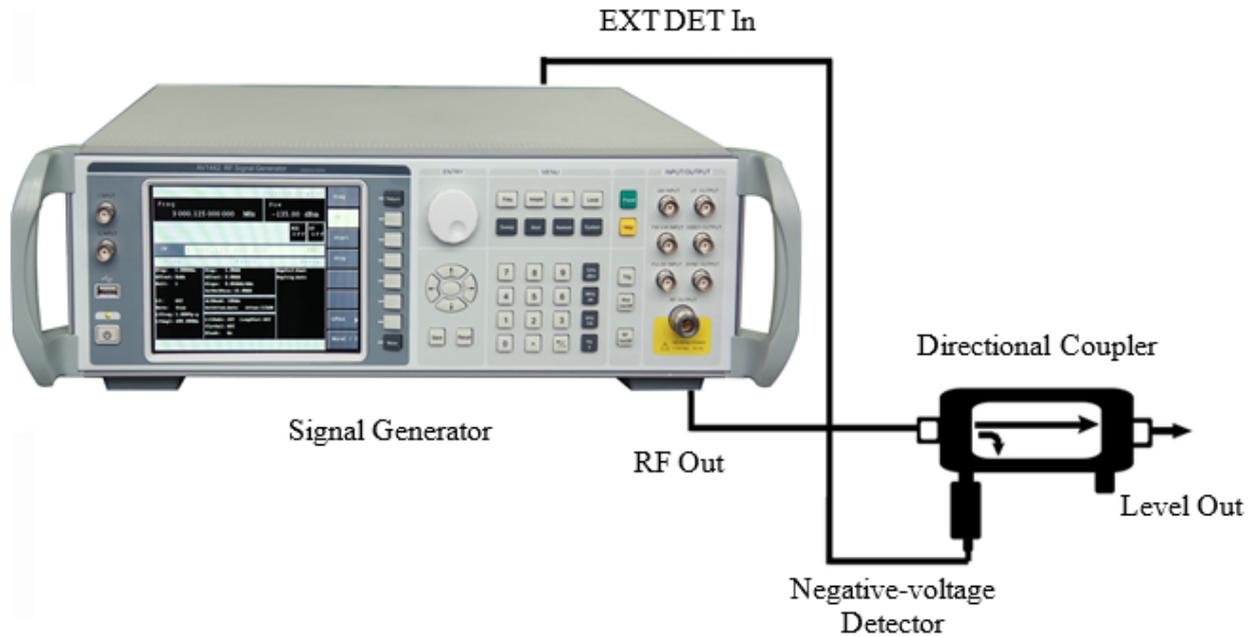

Figure 4-3 ALC Circuit External Leveling
Figure 4-3 illustrates a typical setup for external leveling. When externally leveled, the power level is fed back from the external negative voltage output detector rather than the internal detector. This feedback voltage controls the ALC system thus controls the output power.
- 1) Connect the instrument as shown in Figure 4-3.